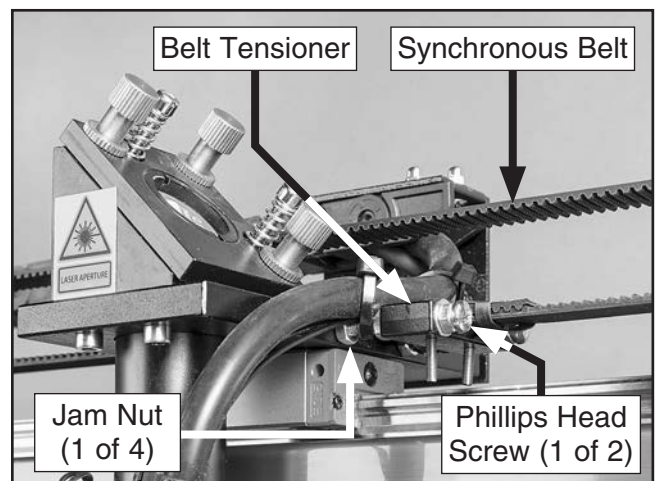

Figure 75. X-axis belt tensioner components.
4. To adjust belt tension, loosen (4) jam nuts on belt tensioner, loosen or tighten (2) Phillips head screws, then secure jam nuts (see **Figure 75**). Repeat **Step 3**.